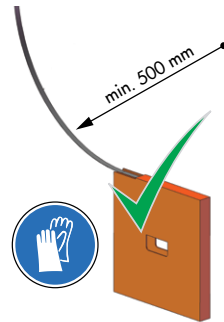

Figure 28: Minimum bending radius for code tape
- ▶ **Important:** Keep a minimum radius of 500 mm when uncoiling the code tape (Figure 28).